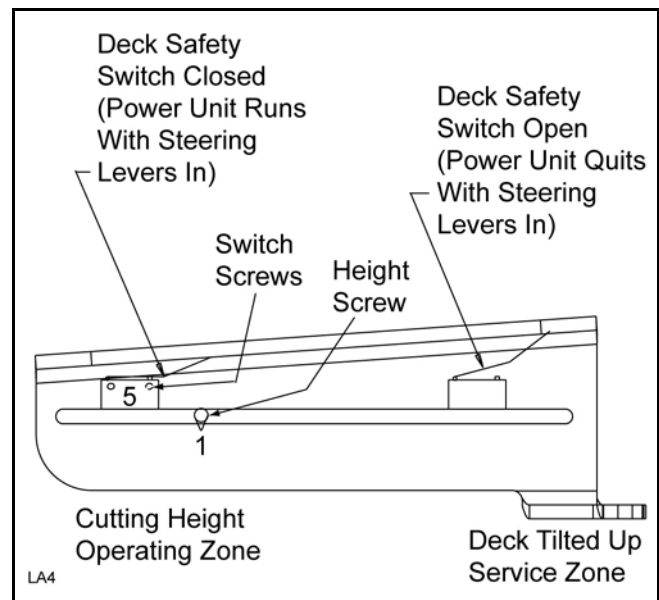

Figure 10. Power Tilt Deck Safety Switch Layout
- Check the deck safety switch refer to Figure 10 and troubleshooting deck safety switch. If the
1. Pull handlebars in with deck in lowest cutting height position (1), see Figure 10.